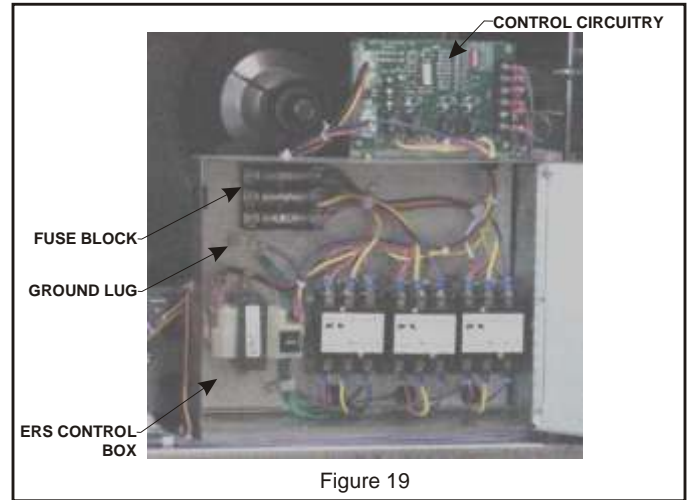

Figure 19
13. Connect line voltage power to ERS unit from rooftop unit disconnect switch through the knock out near the exhaust air hood. Connect the line voltage to the ERS control box per the wiring diagram. See Figure 19.